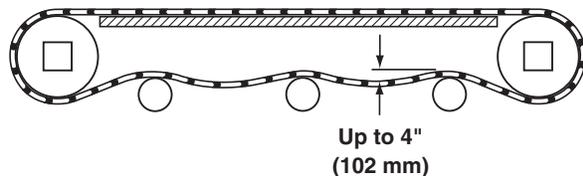

Figure 45
4. Check belt sag by measuring from the top of the return (**Figure 45**). Belt sag should not exceed 4" (102 mm). Follow steps 7 – 9 in the “Belt Installation” section on page 15 to remove slack from the belt.